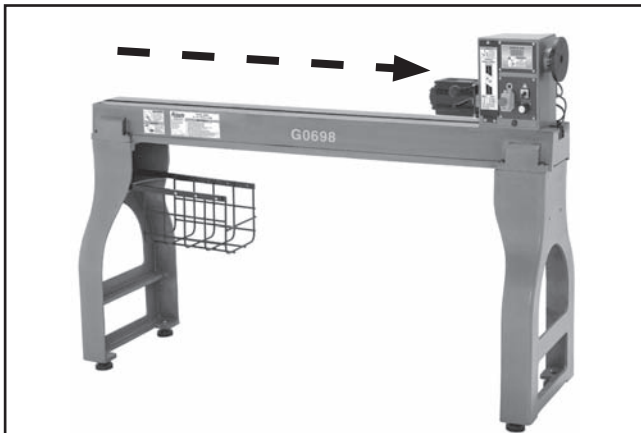

Figure 42. Lathe prepared for outboard turning.
3. Loosen the headstock, then move it all the way to the tail end of the lathe bed, as shown in **Figure 42**.